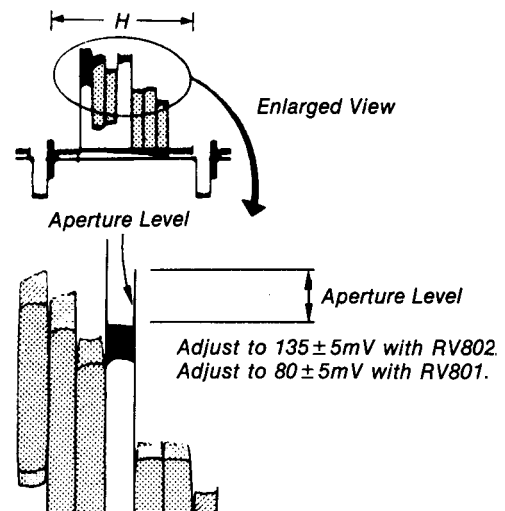

Fig. 7-30.
- After focusing, swing the camera section slightly to the right and left and fix it at the point where an aperture level between white and magenta (see Fig. 7-30) is maximized.